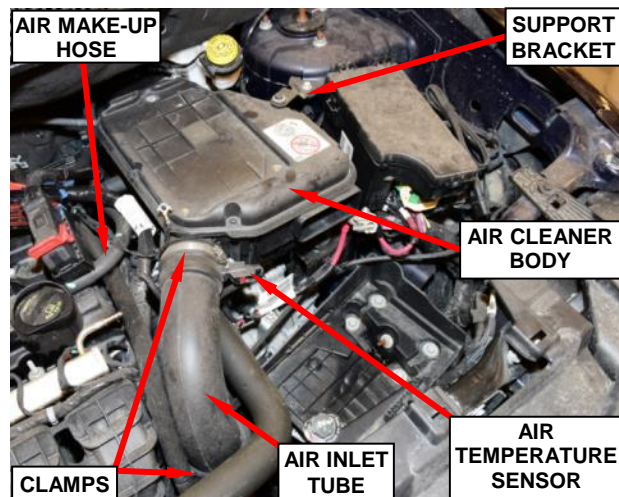

Figure 8 – Air Cleaner
20. Disconnect the air inlet tube temperature sensor electrical connector (Figure 8).
21. Loosen the air inlet tube clamps at the air cleaner body and throttle body (Figure 8).
22. Remove and save the air inlet tube (Figure 8).
23. Disconnect the make-up air hose from the engine valve cover (Figure 8).
24. Remove and save the bolt from the air cleaner body support bracket at the strut tower (Figure 8).
25. Pull the air cleaner body upward to disengage the locating pins from the rubber mounting grommets (Figure 8).
26. Remove and save the air cleaner body (Figure 8).